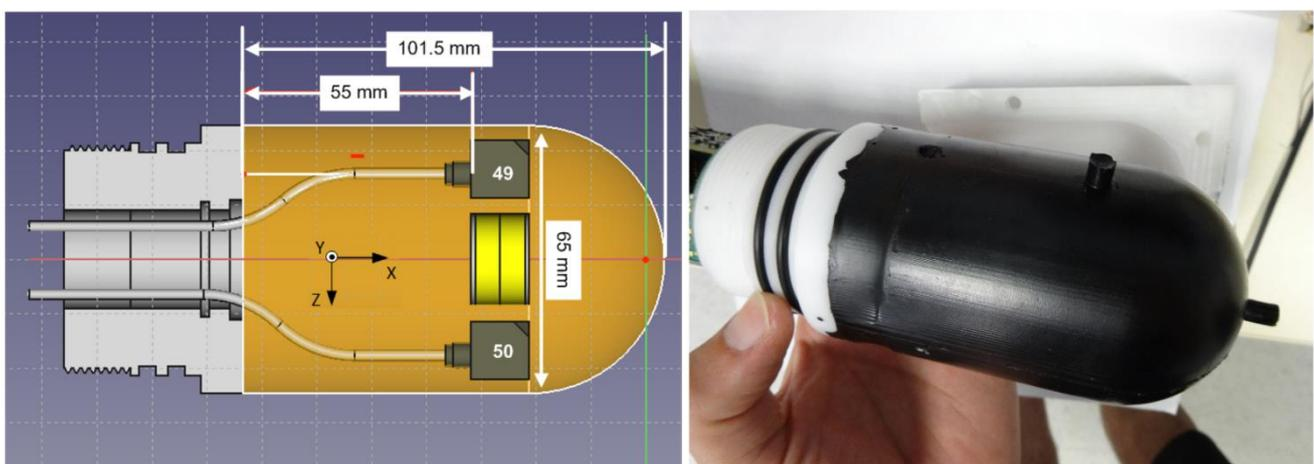

Figure 54 - Internal DAVS nose structure and position (left side) and DAVS nose after PU molding (right side)
The acoustic sensor is a black PolyUrethane (PU) solid block, with the sensing elements and cabling molded inside and a threaded white Delrin cap attached, which will connect to the casing tube. The drawing of Figure 54 shows the dimensions and arrangement of sensors inside the PU block, which are aligned and equally spaced. Note also the orientation of the sensing elements, where the Z axis cross the two accelerometers, the X axis is pointing to the front of the nose and the Y axis is perpendicular to ZX plane. This is the device coordinate system (Cartesian), centred in the middle of the hydrophone. The